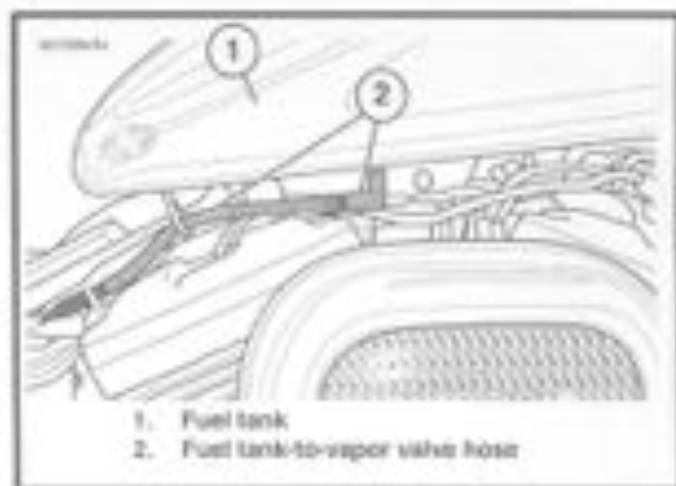

Figure 4-11. Fuel Tank Venting System (Right Side View with Seat Removed)
See Figure 4-11. The fuel tank (1) is vented through a standpipe (vent tube) within the tank. A hose (2) at the base of the fuel tank is connected to the standpipe.
4. See Figure 4-11. Disconnect fuel tank-to-vapor valve hose (2) from fitting at base of fuel tank. Lift fuel tank of motorcycle.
2. See Figure 4-11. Install fuel tank to vapor valve hose (2) into fitting at base of fuel tank (1). Position fuel tank on motorcycle.